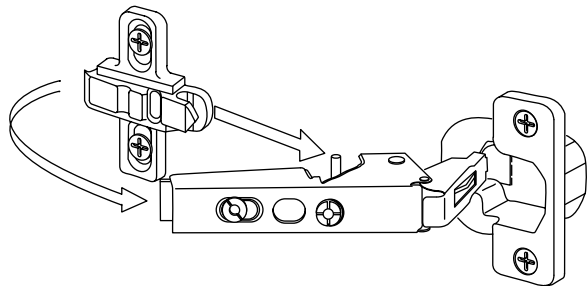

FIGURE 39
1. Reinstall the lower assembly doors (see Figure 39) and drawers.